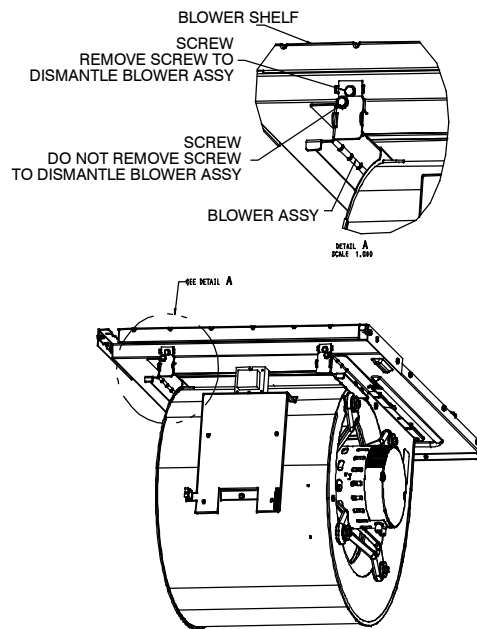

Fig. 4 - Detail of Blower Assembly Screws
1. Remove the top two screws that attach the blower assembly to the blower deck. (Fig. 4) The small bracket connecting blower deck to main blower brackets will come out with blower.